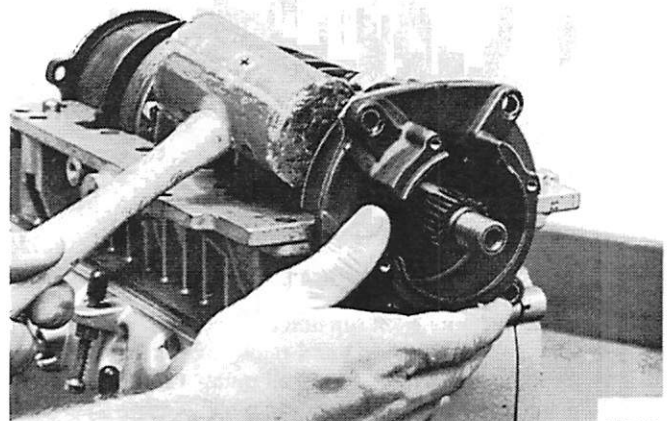

Figure 2. Removing End Caps
2. Tap end caps off with a rawhide mallet. DO NOT tap on shims. (Figure 2)